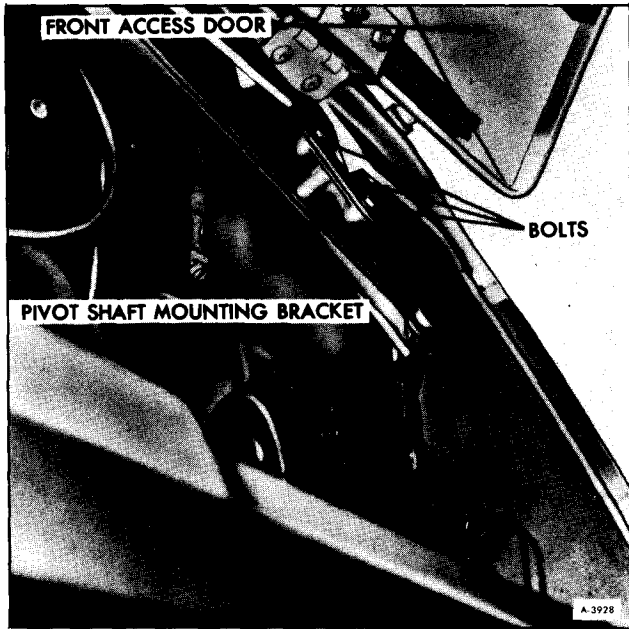

Figure 26—Pivot Shaft Mounting Bracket
3. Remove three bolts from transmission pivot shaft mounting bracket as shown in Figure 26. Remove assembly.